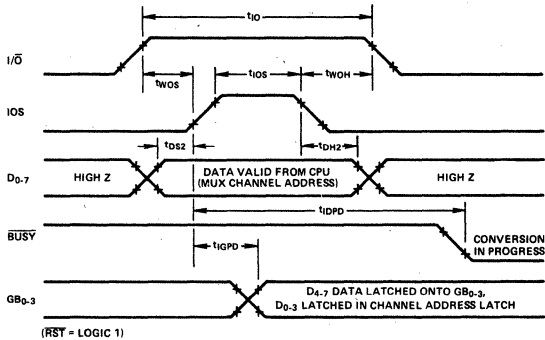

Figure 5. Writing Analog Channel Address and Convert Start
3. CHANNEL SELECT and START COMMAND (See Figure 5)
Assuming the AD7583 has been *enabled* as per paragraph 1 above, the AD7583 will accept a Channel Select and Start Command. Put the channel address (per table 3) on Data Bus inputs D_{0-3} , put I/\bar{O} HIGH (INPUT mode) and strobe IOS as per Figure 5.